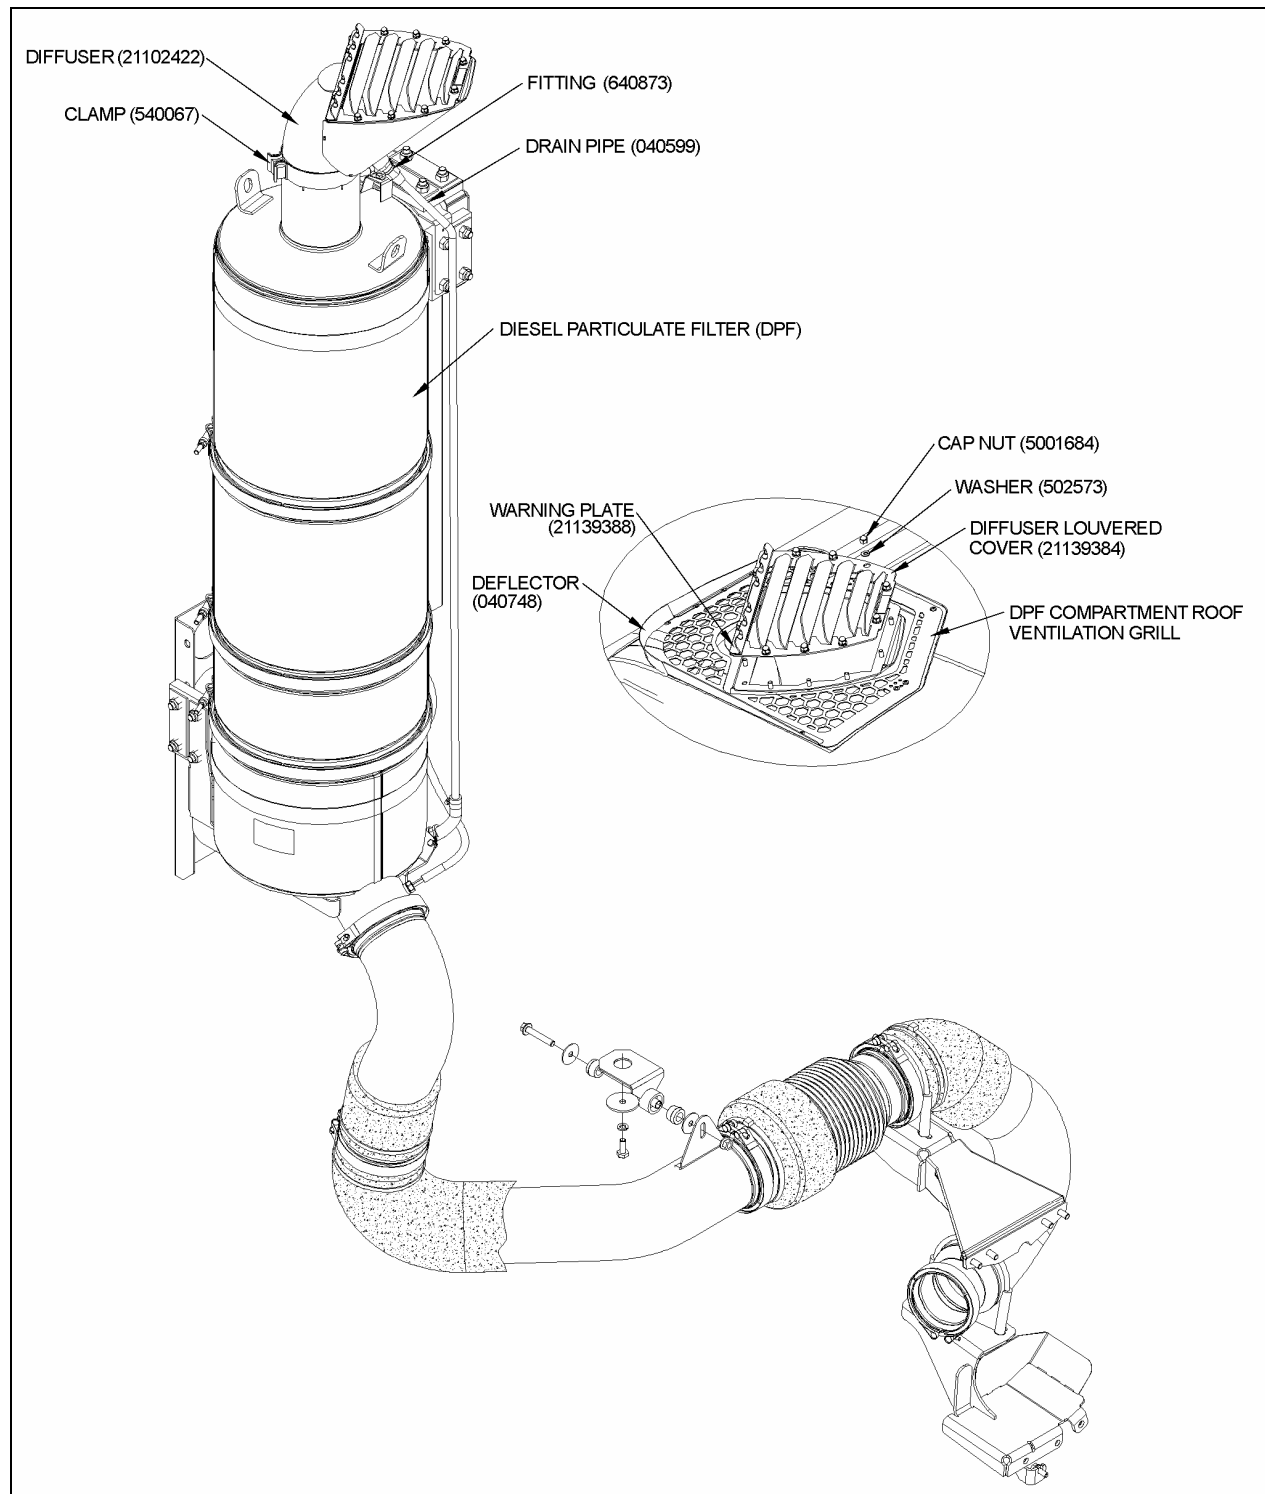

FIGURE 2: EXHAUST SYSTEM INSTALLATION WITH VOLVO D13 ENGINE
3. Remove diffuser holding clamp located above diesel particulate filter (refer to fig. 2).
4. Unfasten diffuser drain pipe fitting (refer to fig. 2).
6. Position Diesel Particulate Filter (DPF) compartment roof ventilation grill and then fix new deflector (040748) and roof ventilation grill using screws (refer to fig. 2).
7. Secure diffuser using SS holding clamp (540067) (refer to fig. 2).
8. Reconnect drain pipe to diffuser using pipe fitting (refer to fig. 2).
9. Fix diffuser louvered cover (21139384) as well as warning plate onto diffuser using flat washers (502573) and cap nuts (5001684) (refer to fig. 2).